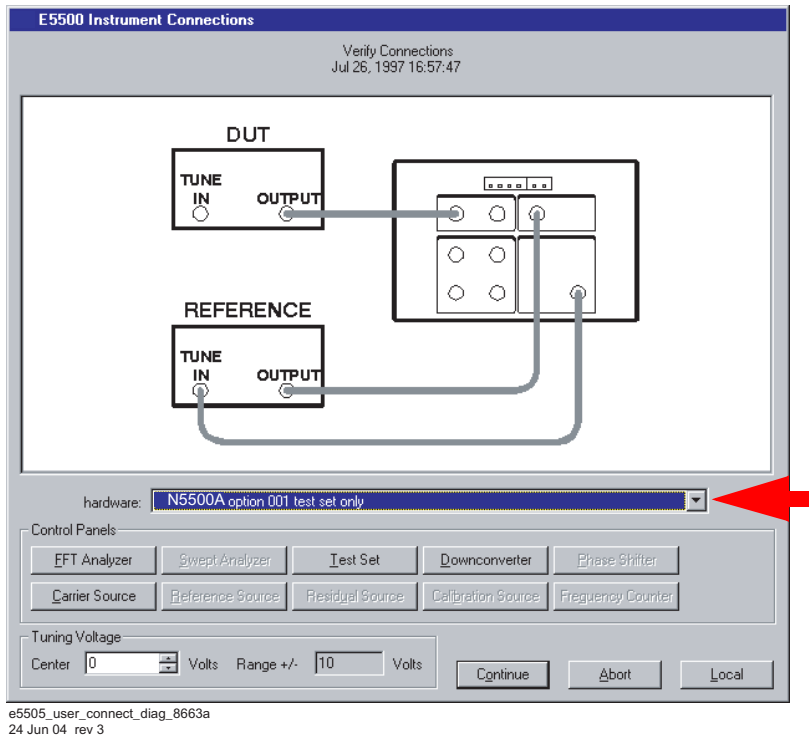

Figure 129 Connect diagram for the RF synthesizer (EFC) measurement
- When the **Connect Diagram** dialog box appears, click on the hardware drop-down arrow and select your hardware configuration from the list. See Figure 129.